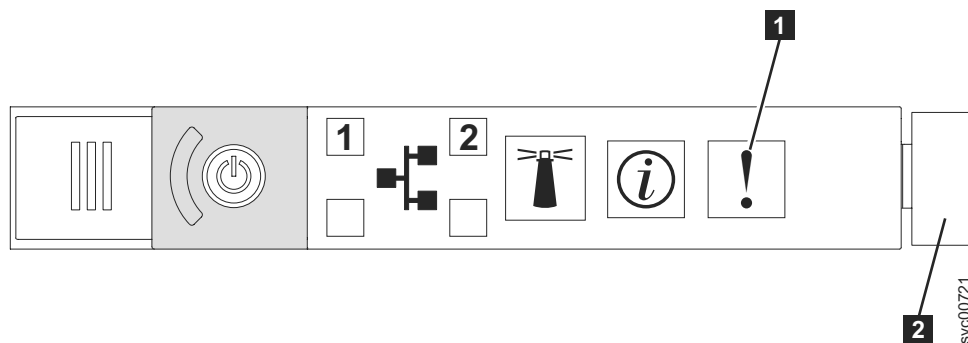

Figure 89. SAN Volume Controller 2145-CG8 or 2145-CF8 operator-information panel
1. Is the Error LED, shown in Figure 89, on the SAN Volume Controller 2145-CG8 operator-information panel on or flashing?